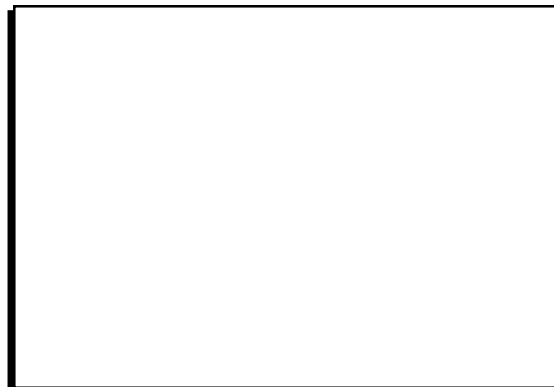

Figure 2 Mounting the MSD to a Go-Ped.
1. With the Go-Ped upside down, position the Kicker Ignition on the right side (opposite the exhaust hole) so the spark plug wire post is to the rear of the Go-Ped. Press the back of the Kicker ignition tightly up to the frame rail with the spark plug lead facing out (Figure 2). Make sure the kick stand will still move freely without hitting or binding on the Kicker Ignition.